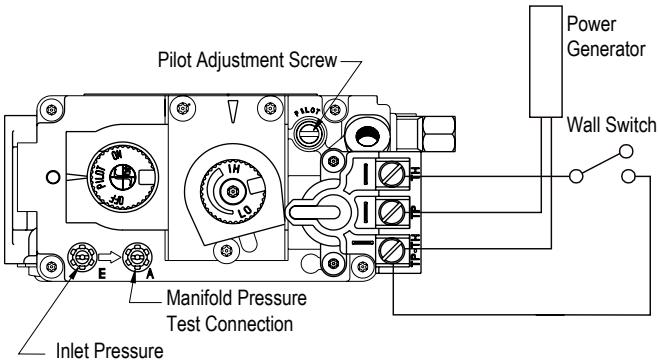

Figure 33. 'Pilot' Adjustment on the **H*DL***'s gas valve.
1. Locate Pilot Adjustment Screw. (See **figure 33**.)
Pilot won't ignite	Disconnect remote wires and try to light pilot. If pilot now works, remote connections are faulty. Check wiring diagram figure 33 .
Main burner will not light	1. Check wiring (see figure 33). 2. Check wall switch for proper connection.